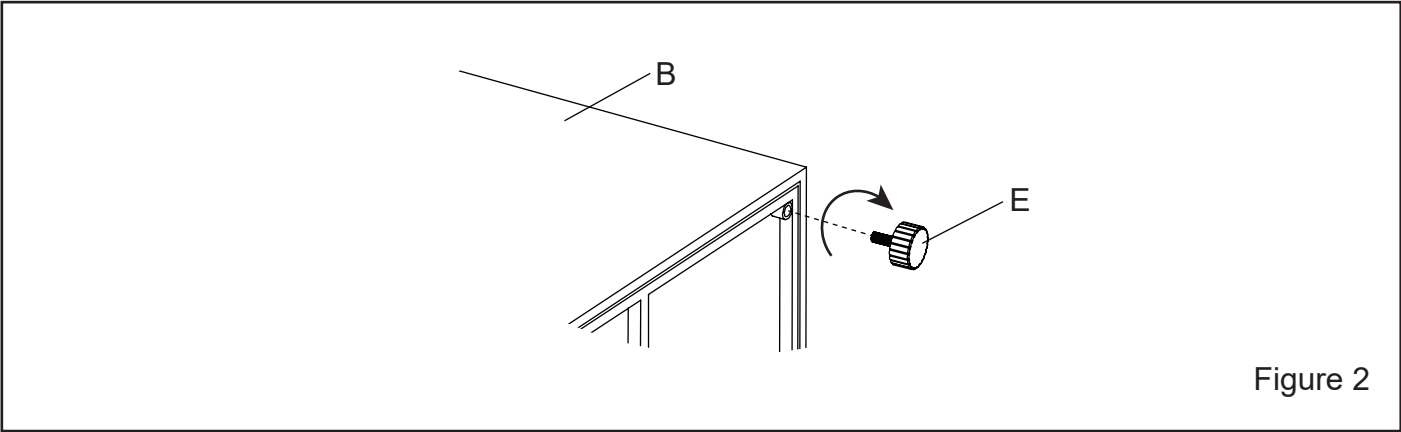

Figure 2
3. With the help of another person, carefully side place the fire pit (B) on a non-abrasive flat surface to prevent scratching, check the four corners at the bottom of fire pit, then line up the foot glider (E) with the screw hole and screw clockwise (see Figure 2).